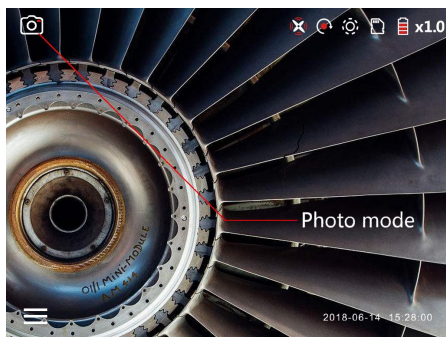

Figure 22
- 1) Photo: Press the camera/video switch button  to adjust to the camera mode. The icon in the upper left corner of the screen displays the camera mode (Fig. 22).